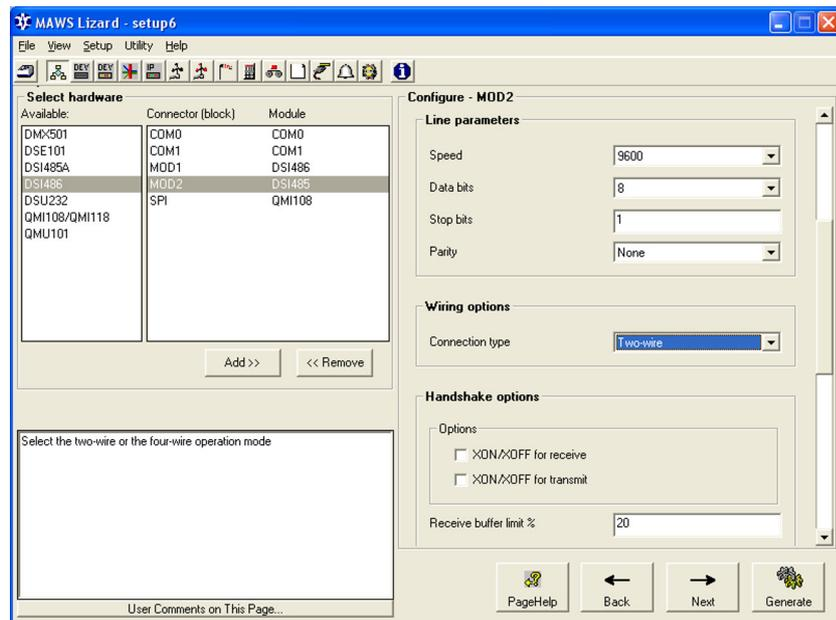

Figure 18 Optional Hardware View: Configuring Communication Port for Nokeval 7470 (1/2)
1. In the **Line parameters** frame, leave the default values (9600, 8, 1, none), unless the Nokeval device is to be otherwise configured. See Figure 18 on page 54.